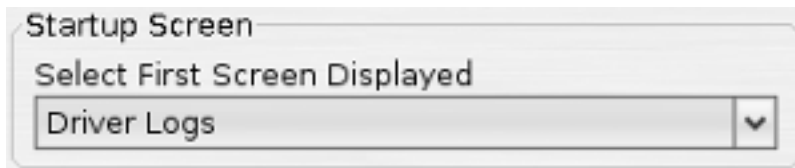

Figure 11.7. Startup Screen Settings
2. Under the "Startup Screen" section select the "Driver Logs" item from the startup screen box see Figure 11.7, "Startup Screen Settings". This will cause trucklogger to startup on the driver's log screen the next time trucklogger is started.